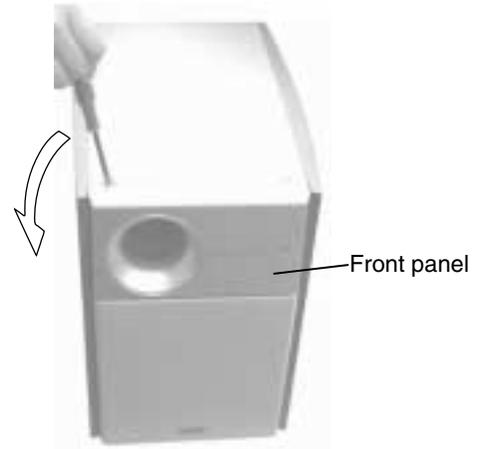

Fig.5
■ **Removing the front panel (See Fig.5)**